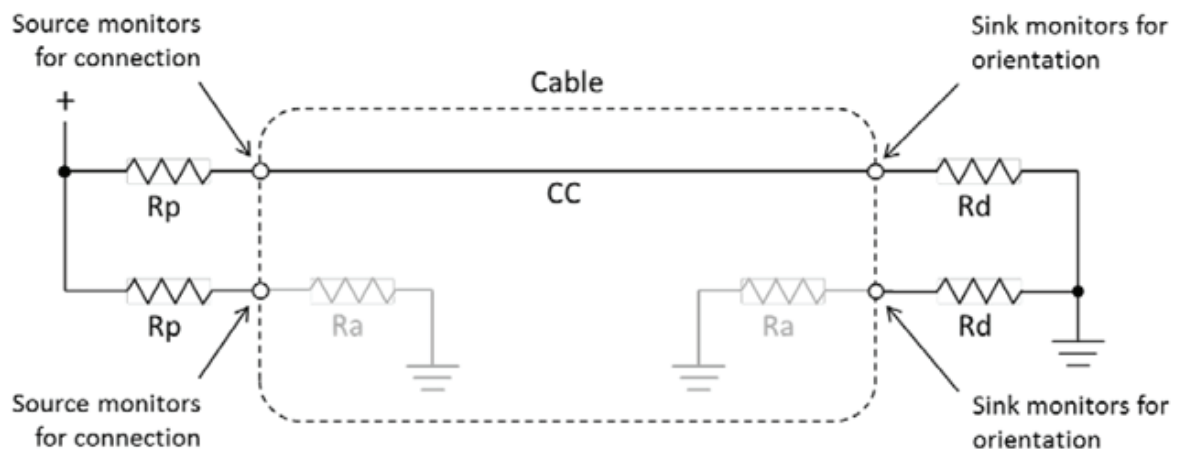

Figure 3. CC logic pullup and pulldown termination. (Source: USB Type-C specification v1.2, Figures 4 and 5 pullup/pulldown CC model)
- **Cable detection** occurs when one of the two CC lines pulls down (see Figure 3). A DFP will have both of its CC pins pull up with resistor R_p , and a UFP will have both of its CC pins pull down with resistor R_d [1]. Once a DFP detects that one of its CC lines is pulled down, the DFP will know that a connection has been made.
VCONN can power passive electronically marked or active cables (cables that support USB PD communication and provide a method for determining cable characteristics) by switching 5 V onto the unused CC line (see the appendix). Figure 3 shows that one CC line in the USB Type-C cable connects R_p to R_d , while the other is left floating (a passive cable) or pulled down to ground with R_a (a passive electronically marked or active cable).